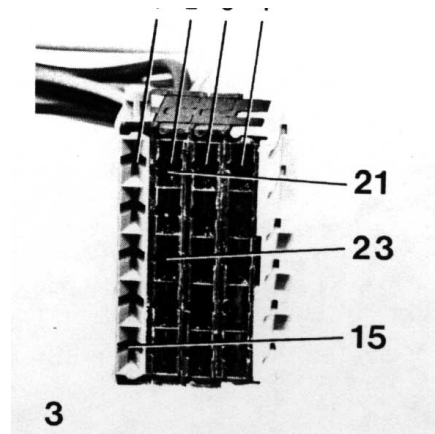

Figure 3
7. Remove the first element from CEB plug "L". Install the supplied wiring bridge with connector (800mm long, 0.5mm², black /yellow) into element 1, position 5 (Figure 3). Reassemble element and install plug "L" into CEB.